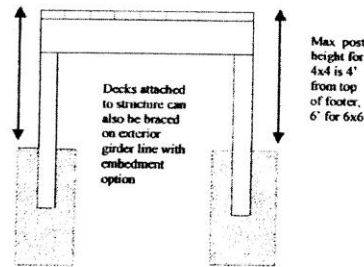

Figure AM109.2
▶ **AM109.1.3** For freestanding decks without knee braces or diagonal bracing, lateral stability may be provided by embedding the post in accordance with Figure AM109.2 and the following: